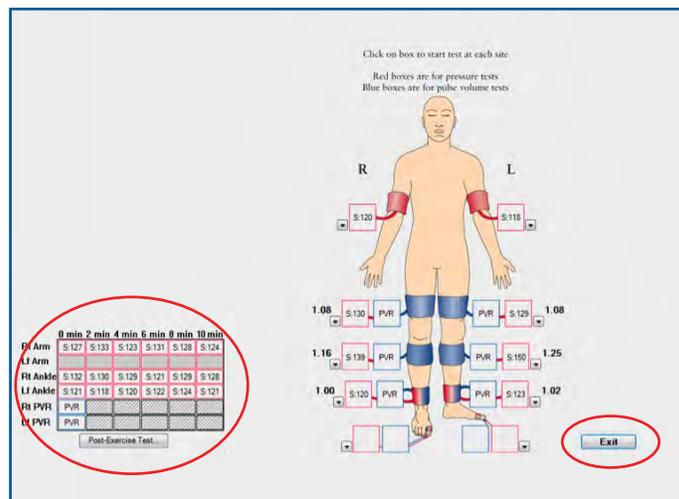

FIGURE 1.45 - Completed Study with Post-Exercise Values and "Exit" Button
22. Click "Next" after the final 10th minute pressure to bring up the overview of the study. Click "Exit" when finished (Figure 1.45).